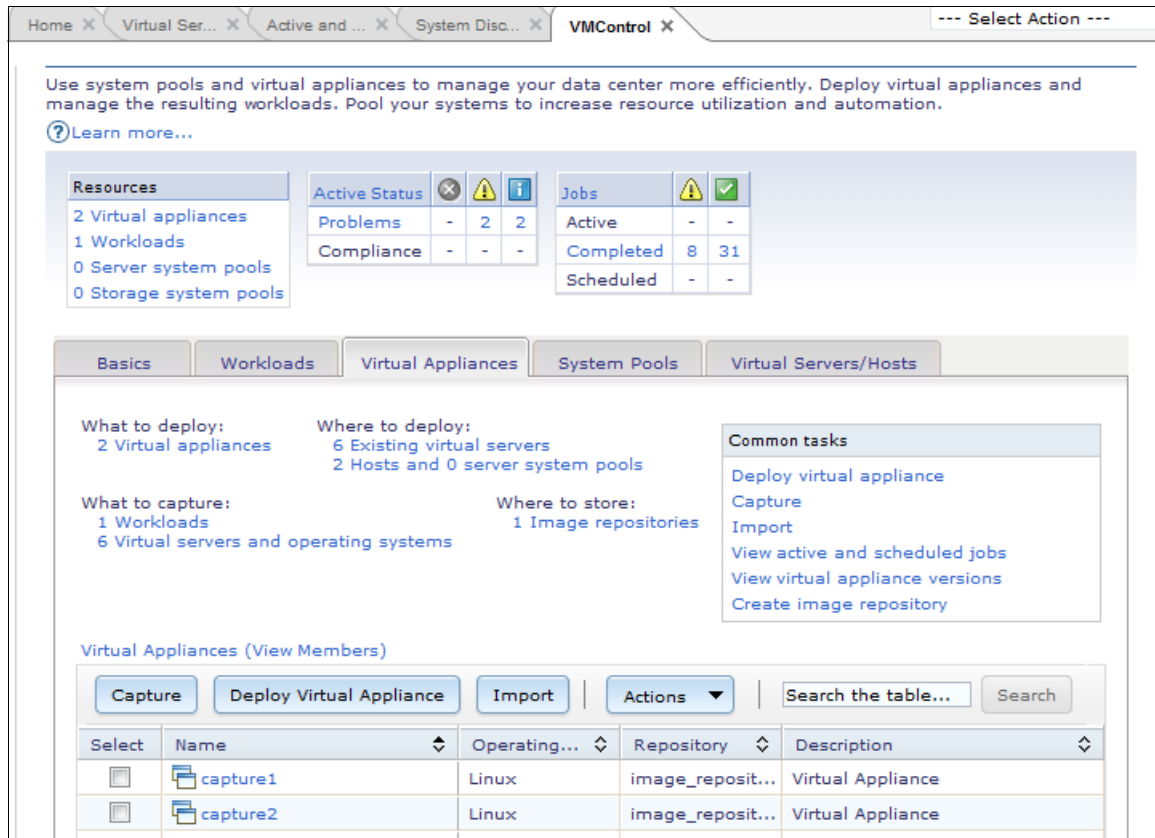

Figure 3-77 VMControl: Virtual Appliances tab
- In the VMControl tab, select the **Virtual Appliances** tab to view virtual machine-related information, which is shown in Figure 3-77.
11. On the **Virtual Appliance** tab (see Figure 3-77 on page 124), click **Capture** in the Common tasks box.